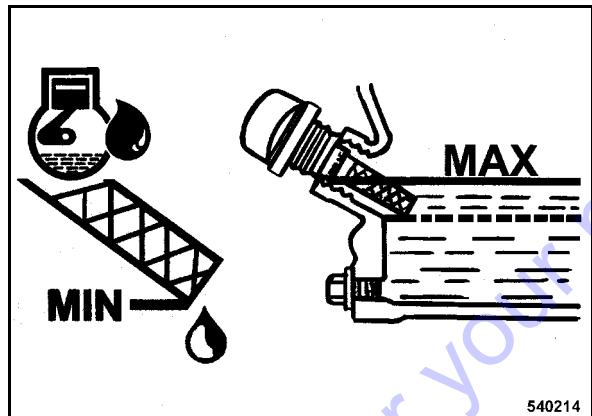

Fig. 33
- The oil level must reach the bottom edge of the filler bore (Fig. 33), maximum level.